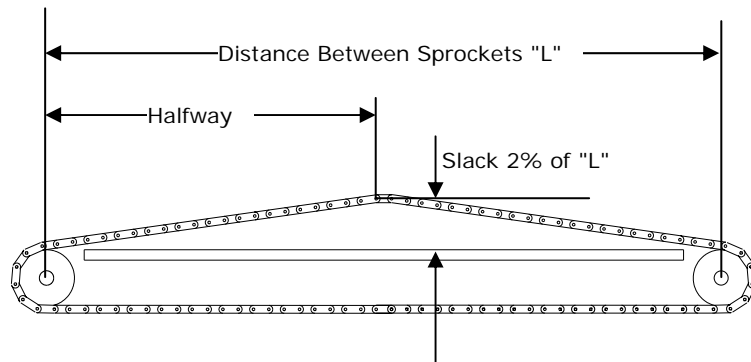

Figure 4.2 – Tensioning Conveying Chain on Chain Conveyor
- Adjust the chain tension using the take up sprocket. Refer to Figure 4.2. Lift the chain half way between tail sprockets and measure the gap. It should be 2% of the distance between tail sprockets.